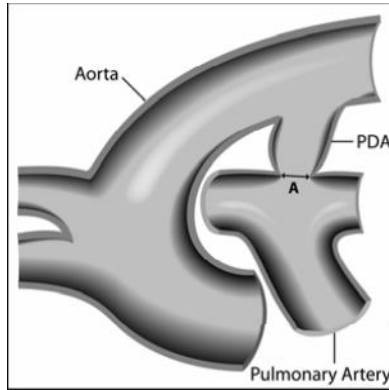

Figure 2. Ductal anatomy with measurement (A) indicating the diameter of the pulmonic ostium of the ductus. Device selection is based on this measurement.
- f* Size of ductus (see Figure 2).
Success of transcatheter PDA closure with the Amplatz Canine Duct Occluder is contingent on an accurate measurement of ductal anatomy. Although echocardiography can visualize a PDA, the spatial resolution of this imaging modality is insufficient to properly size the device. Device selection is determined by the diameter of the pulmonic ostium of the PDA as measured by arteriography (Figure 2). A device should be selected with a waist diameter that is at least 1.5 times the size of the pulmonic ostium of the PDA as measured by arteriography.